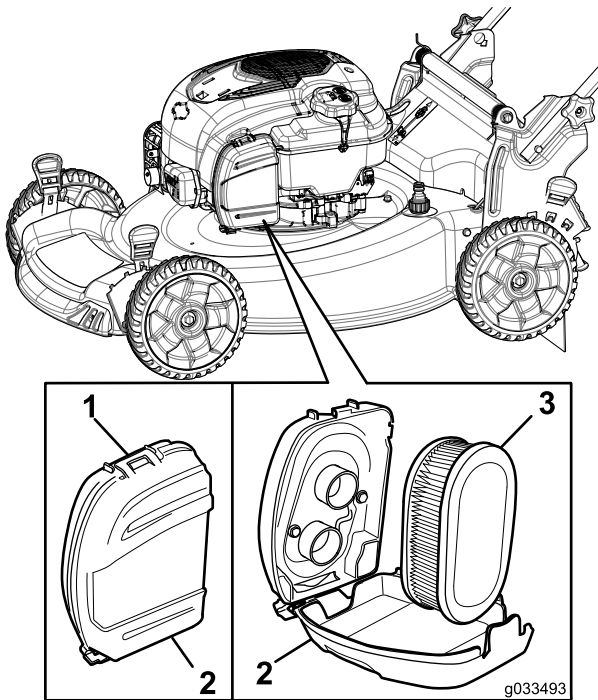

Figure 33
1. Unclip the top of the air-filter cover (Figure 33).
2. Remove the air filter (Figure 33).